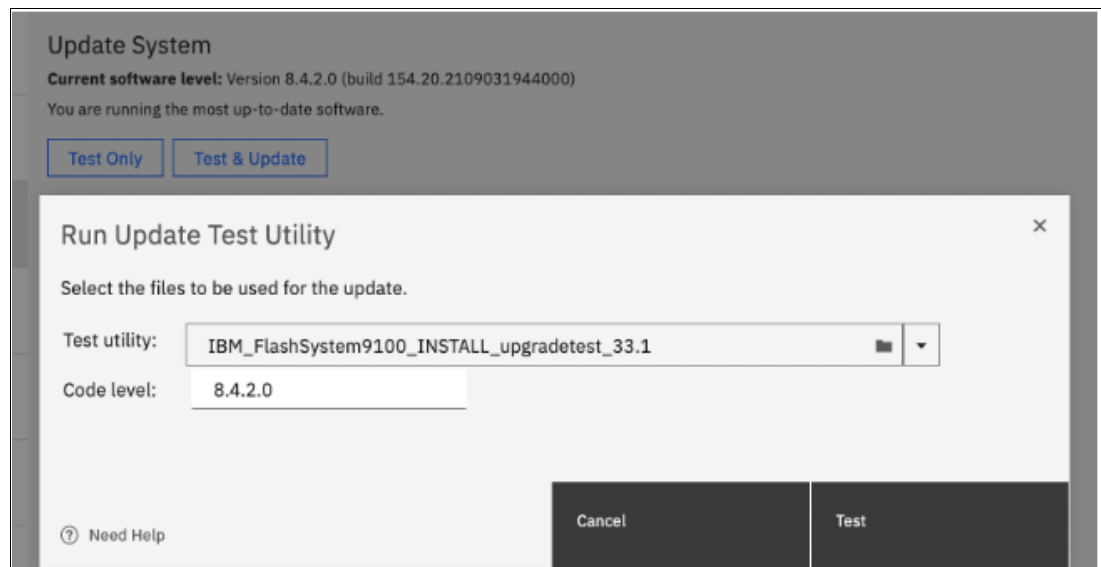

Figure 10-5 IBM FlashSystem Upgrade Test Utility using the GUI
3. Select the test utility that you downloaded from the Fix Central support site. Upload the Test utility file and enter the code level that you are planning to update to. Figure 10-5 shows the IBM FlashSystem management GUI window that is used to install and run the Upgrade Test Utility.